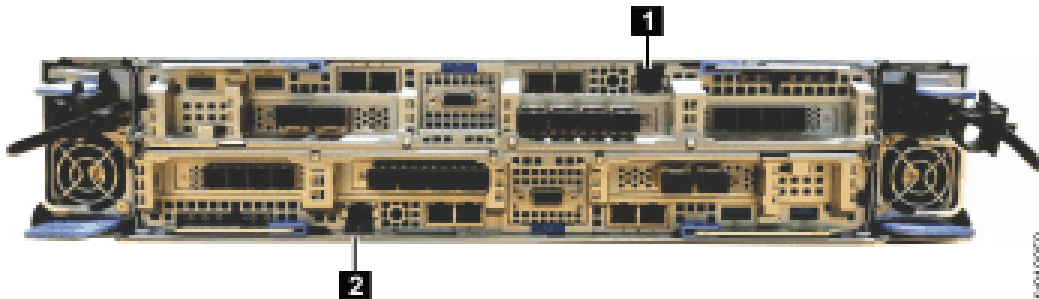

Figure 66. Technician port
4. Disconnect the personal computer from all networks. Connect an Ethernet cable between the port of the personal computer that is configured in step “2” on page 99 and the technician port in the left canister (1) that is shown in Figure 66 on page 99.